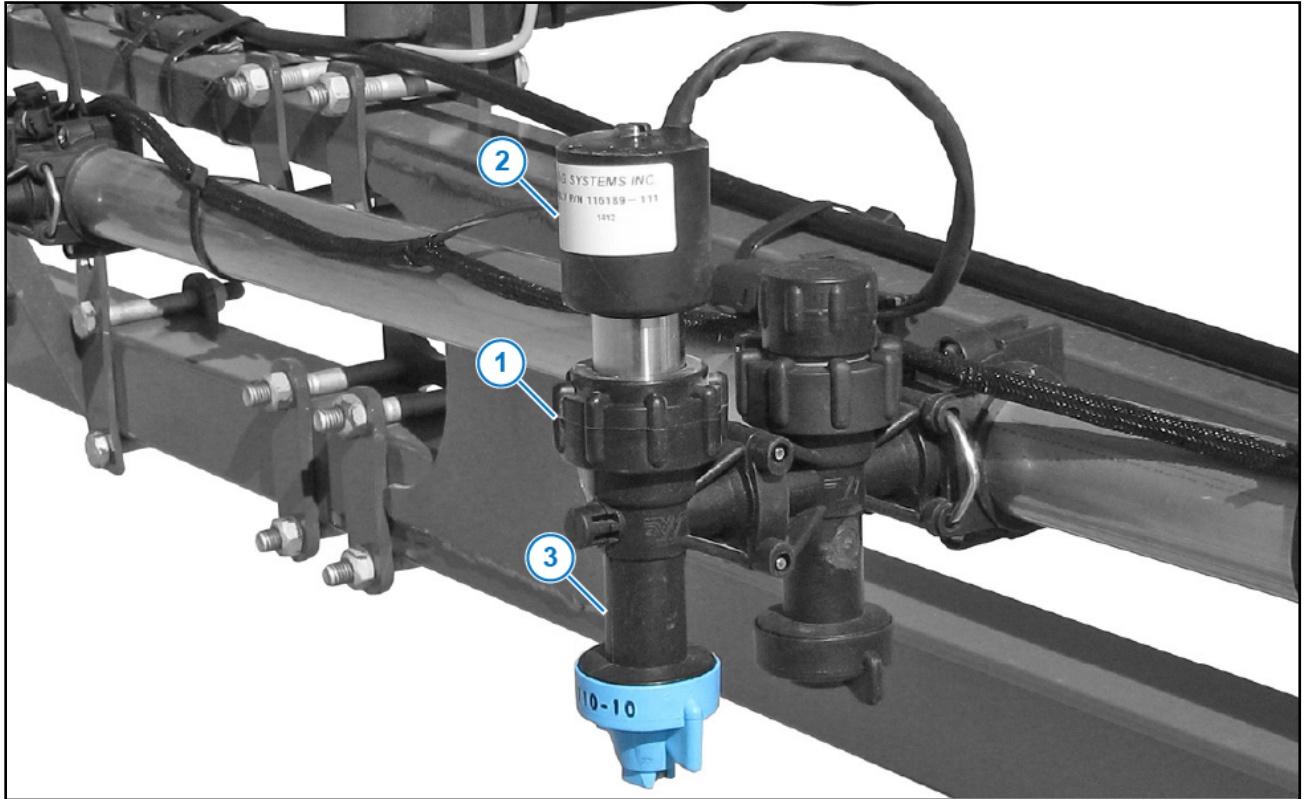

Figure 47: Nozzle Valve Disassembly
1. Unscrew the fly nut (Figure 47, Item 1) counter-clockwise to remove the nozzle valve assembly (Figure 47, Item 2) from the nozzle body (Figure 47, Item 3).